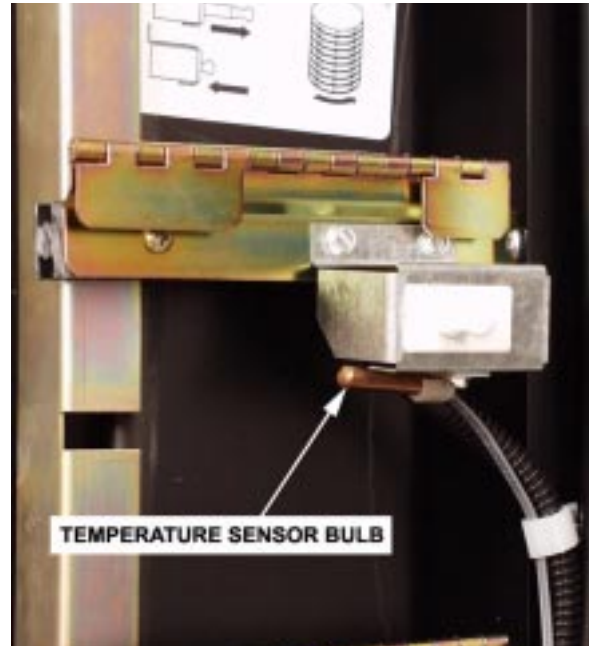

Figure 26
3. Loosen the screw holding the temperature sensor bulb under the load switch (figure 26).